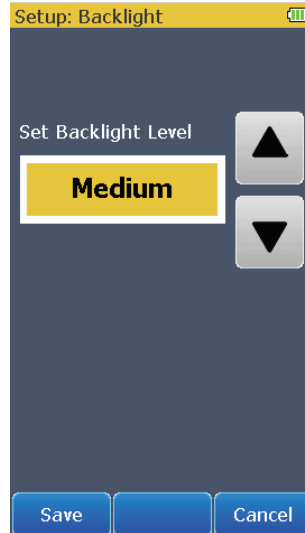

Figure 22. Backlight Screen
1. From the **Setup** screen, touch the **Backlight** control to show the screen in Figure 22 in the display.